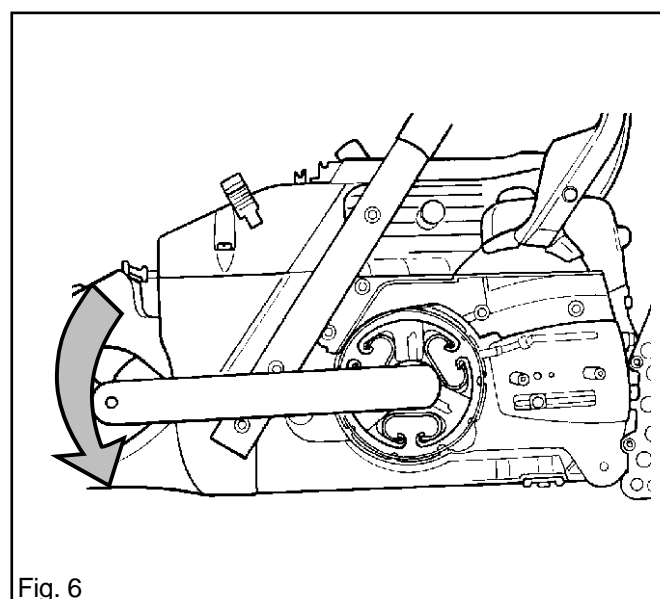

Fig. 6
2. Screw the clutch hub onto the crankshaft and tighten with the clutch tool. Note - left-hand thread. See fig. 6.